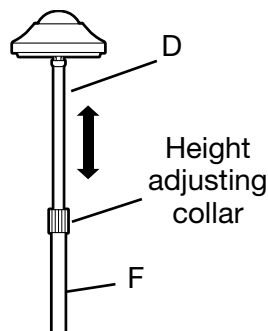

Fig. 5
1. To adjust lamp height – hold upper shaft (F) with one hand, loosen height adjusting collar. Raise or lower lamp arm (D) to desired height. Tighten collar (Fig. 5).